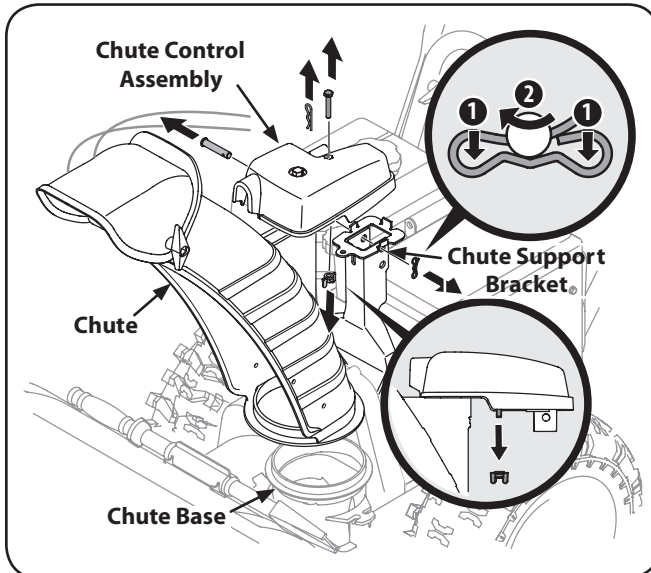

Figure 3-4
1. Remove cotter pin, wing nut and hex screw from chute control assembly. Remove clevis pin and bow-tie cotter pin from chute support bracket. See Figure 3-4.